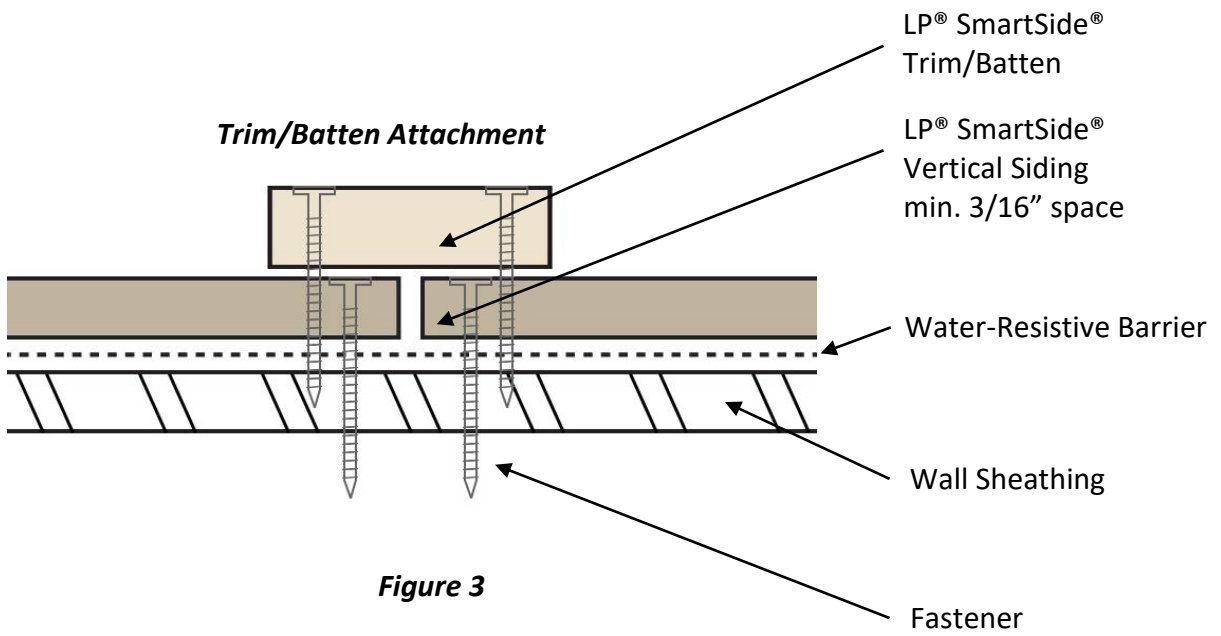

Figure 3
- Vertical Siding must be spaced a minimum of 3/16 (See Figure 3)